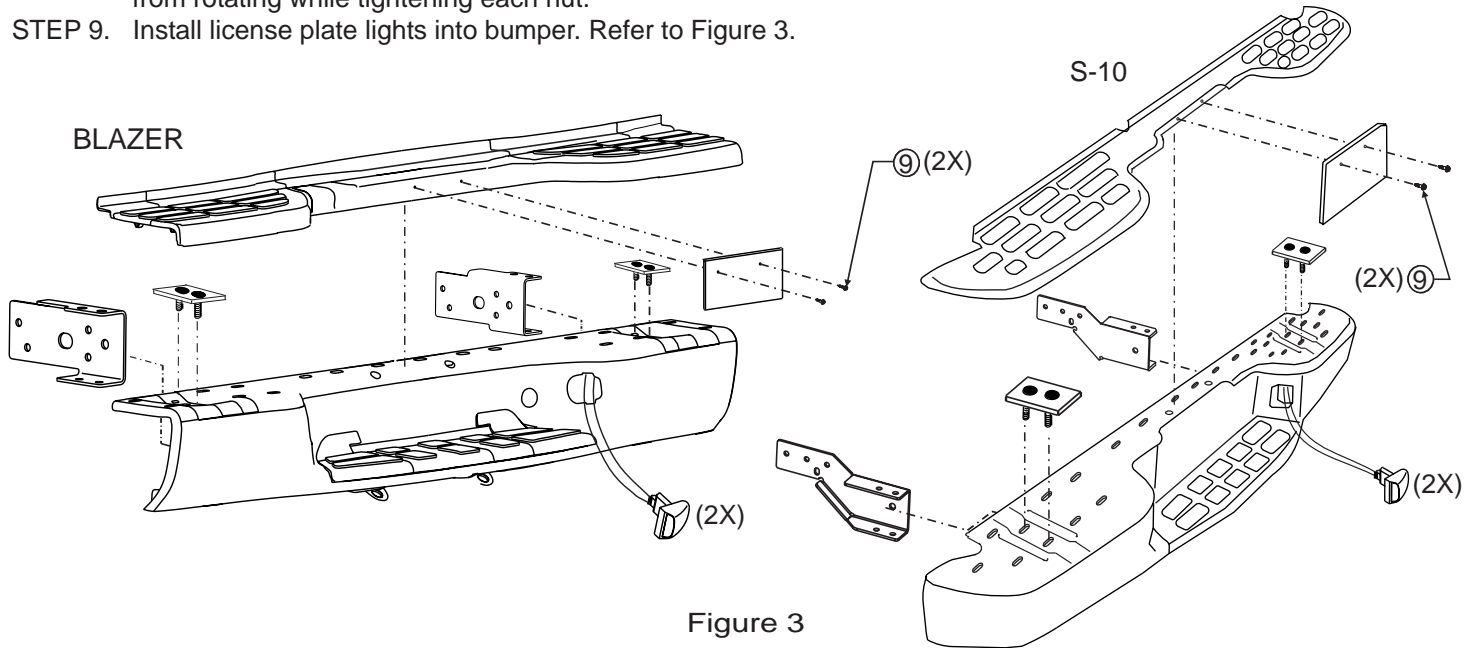
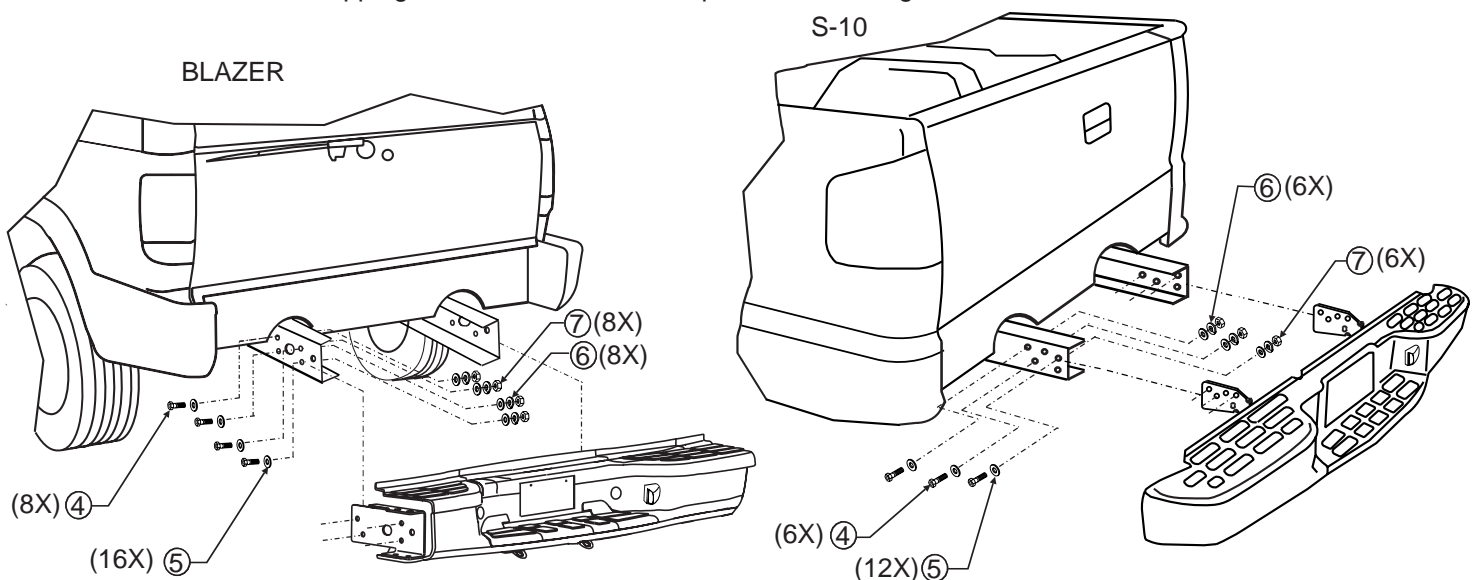

Figure 3
Figure 4
- STEP 5. Hand tighten (2) 7/16"-14 locking flanged nut onto each bolt plate.
- STEP 7. Pass (1) 1/2"-13 X 1.25" bolt along with (2) 1/2" washers through each of the bottom mounting holes.
- STEP 8. Hand tighten (1) 1/2"-13 locking flanged nut onto each bolt. Use a 3/4" open ended wrench to prevent each bolt from rotating while tightening each nut.
- STEP 9. Install license plate lights into bumper. Refer to Figure 3.
- STEP 10. Position bumper to the frame of the vehicle so that the mounting holes on the bumper's hitch align with the mounting holes on the frame of the vehicle. Refer to Figure 4.
- STEP 11. Pass 7/16"-14 X 1.25" bolt along with (2) 7/16" flat washers and (1) 7/16" split lock washers through each mounting bracket hole and into the vehicle's frame. Refer to Figure 4.
- STEP 12. Hand tighten (1) 7/16"-14 nut onto each bolt. Use a 5/8" open ended wrench to prevent each bolt from rotating while tightening each nut.
- STEP 14. Use #14 self-tapping screws to install license plate. Refer to Figure 3.